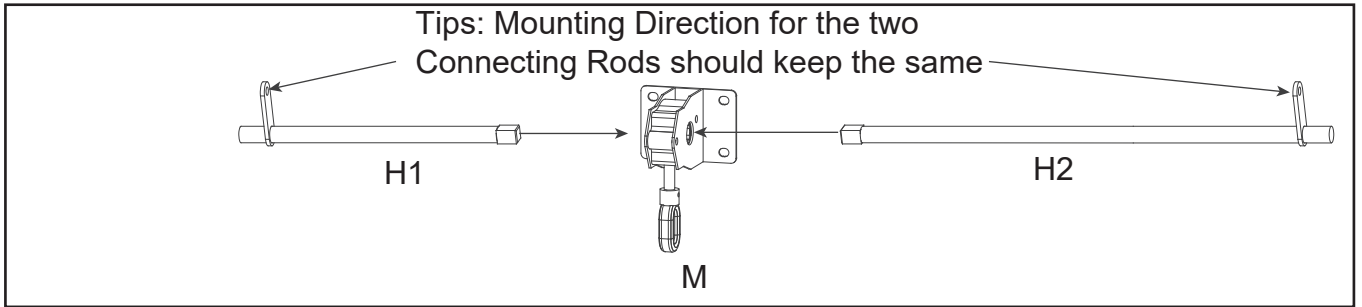

Figure 7.1
7. Insert one side of the two Connecting Rods (H1/H2) into the Spinner (M), then attach the Spinner (M) to the Rear Lintel (F) and secure it with the Bolts (AA) and Washers (HH). Finally the other end of the Connecting Rods (H1/H2) is attached to the Lintels (B/C/E) using Bolts (CC), Washers (GG/HH) and Nuts (FF). See Figure 7.1- 7.3.